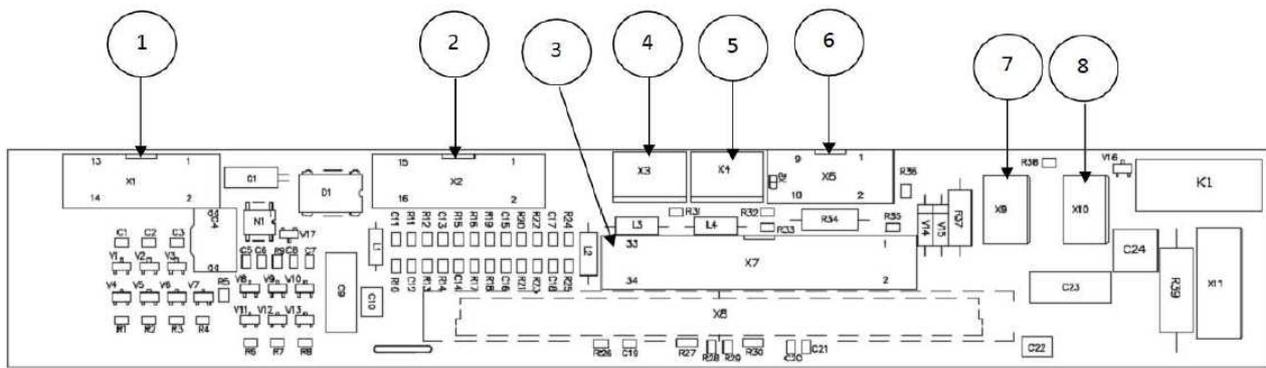

Figure 2.4 Connections on MiniCSU-3 backplane
To enable monitoring and alarming of tripped external load distribution circuit breakers, a 3-terminal connector is provided on the MiniCSU-3 backplane - item (8) in Figure 2.4. The signal is ACTIVE HIGH for any circuit breaker going open circuit. Below is an example of how to configure external auxiliary contacts to interface to the line. $+15\text{V}$ and 0V is available on the connector to power active circuits if required. Note: the connection can be used in parallel with load circuits in the battery/load distribution unit.
The optional sensors for measuring ambient and battery temperature are the same device (Part No. 804-1100-01). The system auto-detects if the sensor is plugged into one of the positions (4) or (5) shown in Figure 2.4. If no sensor is installed, the MiniCSU-3 will show “Not Available” in the menu items for the temperature measurements. Locate the ambient sensor close to the intake air zone of the Powershelf. Locate the battery sensor on a battery block in the middle shelf of the battery bank (likely hot zone).